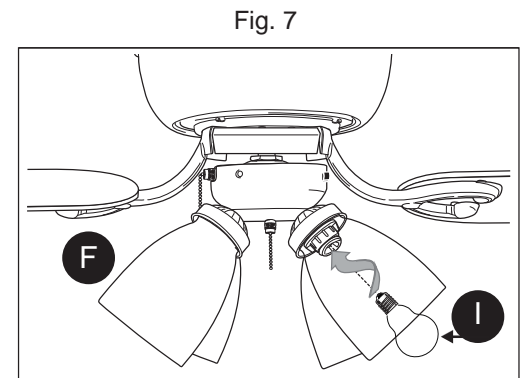

Fig. 7
**Note:** Do not overtighten socket rings (L) as glass may crack or break.
7. Install four candelabra base 60 watt max. bulbs (I) included. (Fig. 7)
**Important:** When you need to replace bulbs, please allow bulbs and glass shades (F) to cool down before handling them.